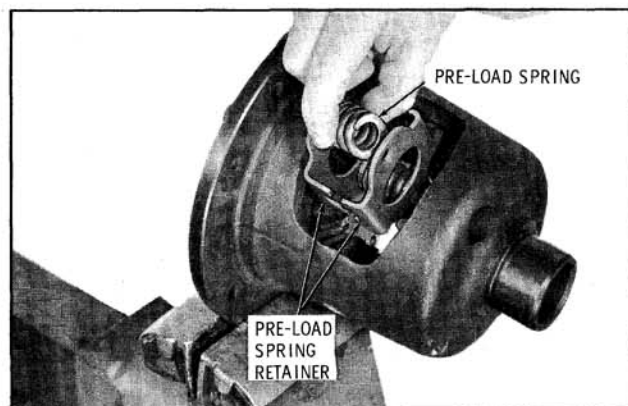

Fig. 10-52 Installing Pre-load Spring
10. Install the remaining pre-load spring and finish driving the retainer and springs into position. (Fig. 10-52)